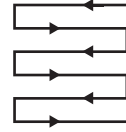

Fig. 19
5. Mow in slight overlapping rows. The most effective pattern for mowing lawns is straight lines along one of the sides. This will keep the rows even and ensures that all the lawn is cut without missing any spots (Fig. 19).
8. Empty the grass catcher (7) regularly.